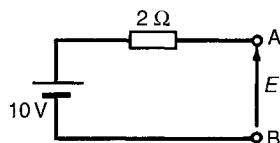

Figure 13.29
- (i) The open-circuit voltage,  $E$ , across terminals AB in Fig. 13.29 is equal to 10V, since no current flows through the 2 Ω resistor and hence no voltage drop occurs.